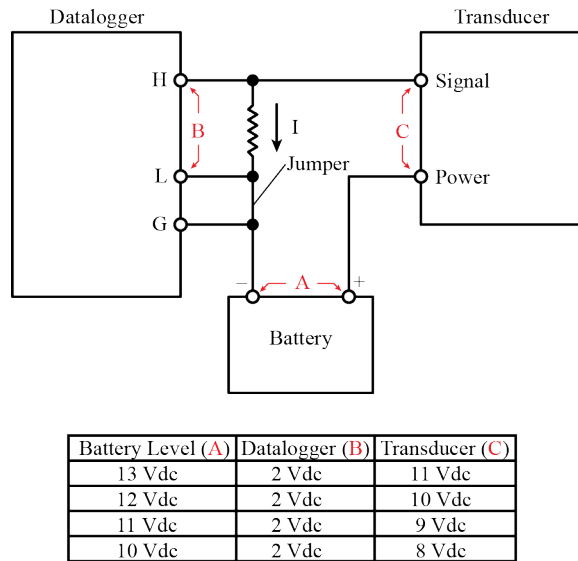

FIGURE 4-3. Voltage drop in a 2-wire transducer with external power
FIGURE 4-3 illustrates how the voltage available to a transducer (C) is directly related to the voltage available from the battery (A).